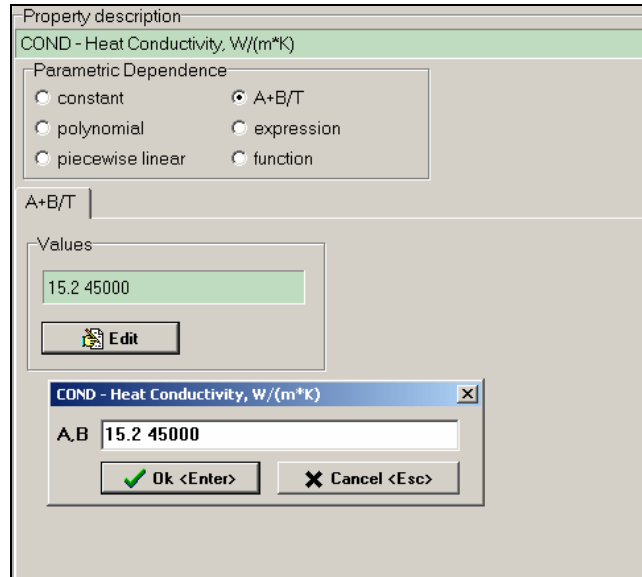

Fig. 50
- **A + B/T** (see Fig. 50). For a temperature dependence of the selected material characteristic defined as  $f(T) = A + B/T$ , the *Property Description* section contains a text field **Values** and button **Edit** allowing the user to change **A** and **B** parameters. The values should be separated by a white space, comma or semicolon.